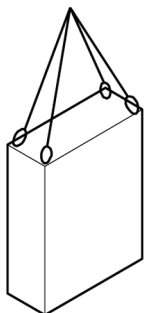

Fig. 15: Transport with a crane
1. ➤ Attach ropes, straps or multi-point suspension gear in accordance with Fig. 15.